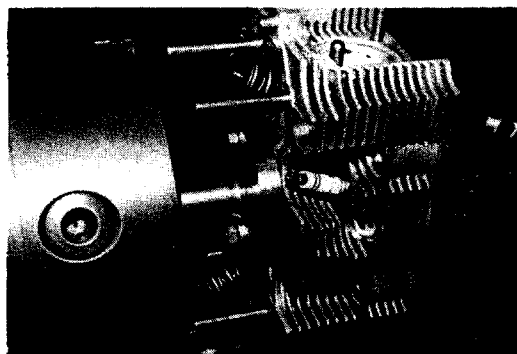

Figure 2
2. Install special tool 9526 on the short 8mm cylinder head studs. Tool cut-out faces intake valve (Figure 2).